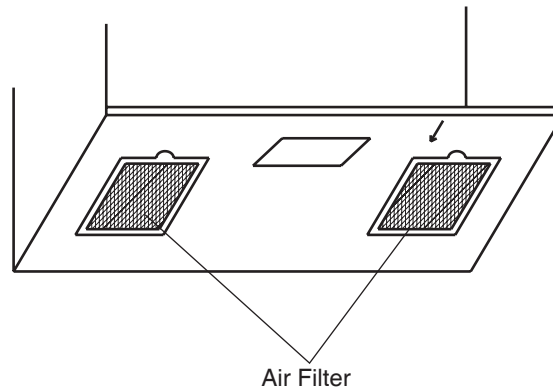

Fig.5-2
4. Grasp the ring of air filter, insert the end of the air filter with out ring into the opening, slide back to the position (Fig. 5-2)